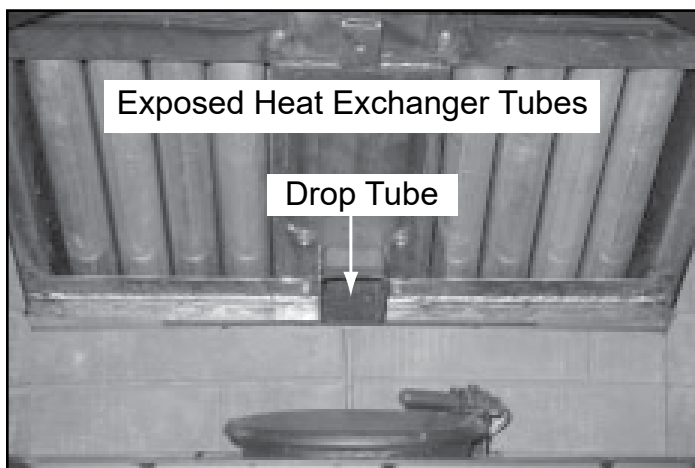

Figure 21.1
- a. Use a Shop Vac to vacuum any fly ash and soot from the heat exchanger tubes and firebox area (**Figure 21.1**).